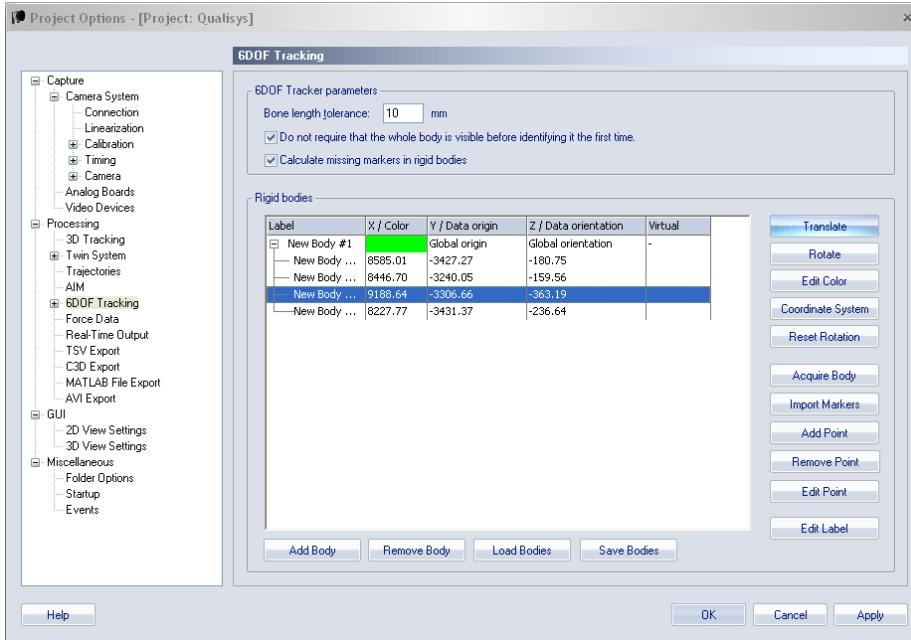

Figure 1.5: Qualisys Track Manager aquired body
3. Align the vessel with 0°heading (i.e. with the bow pointing towards the command center) and push “Acquire Body” to get the position of the reflectors. A list appears, as in Figure 1.5.
4. To redefine the body fixed coordinate frame, choose a reference reflector. As highlighted in Figure 1.5, it may be practical to choose the highest-most, in this case reflector 3. Push “Translate” and enter the coordinates of the chosen reflector in the desired frame. See the Handbook for the specific vessel for information of the position of this reflector in the body-frame.